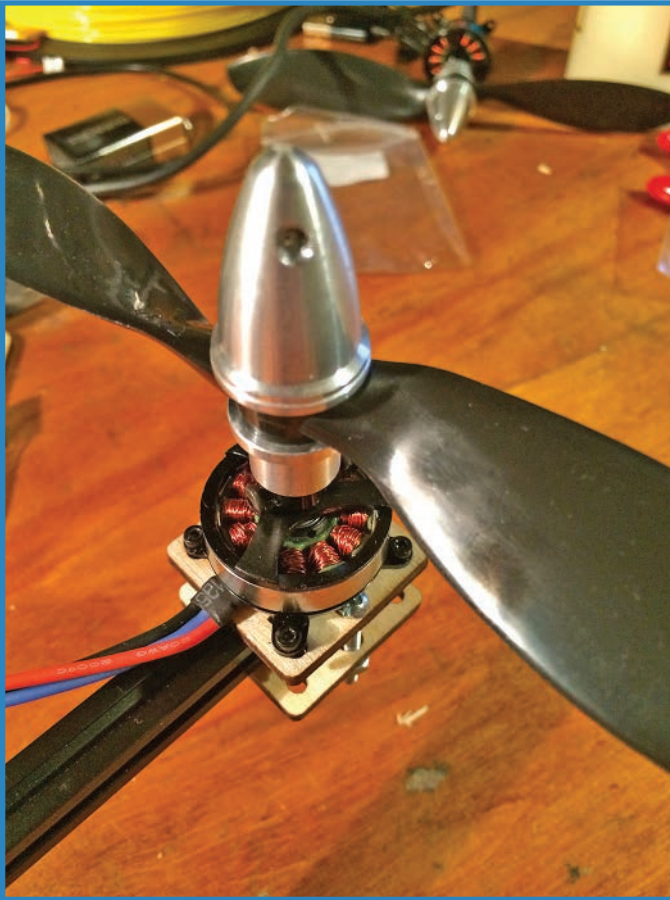

FIGURE 6.11 Attach the propellers.
4. Connect the propellers to the motors using the prop adapters. You can see how to do this in Figure 6.11. All you do is thread the prop on the hardware while attaching the female end of the adapter to the motor's hub. Tighten until they feel secure, but not so tight that you'd have difficulty removing the prop if it breaks. Make sure you use the right propellers, with the two pushers opposite each other, and the two normal props opposite each other.